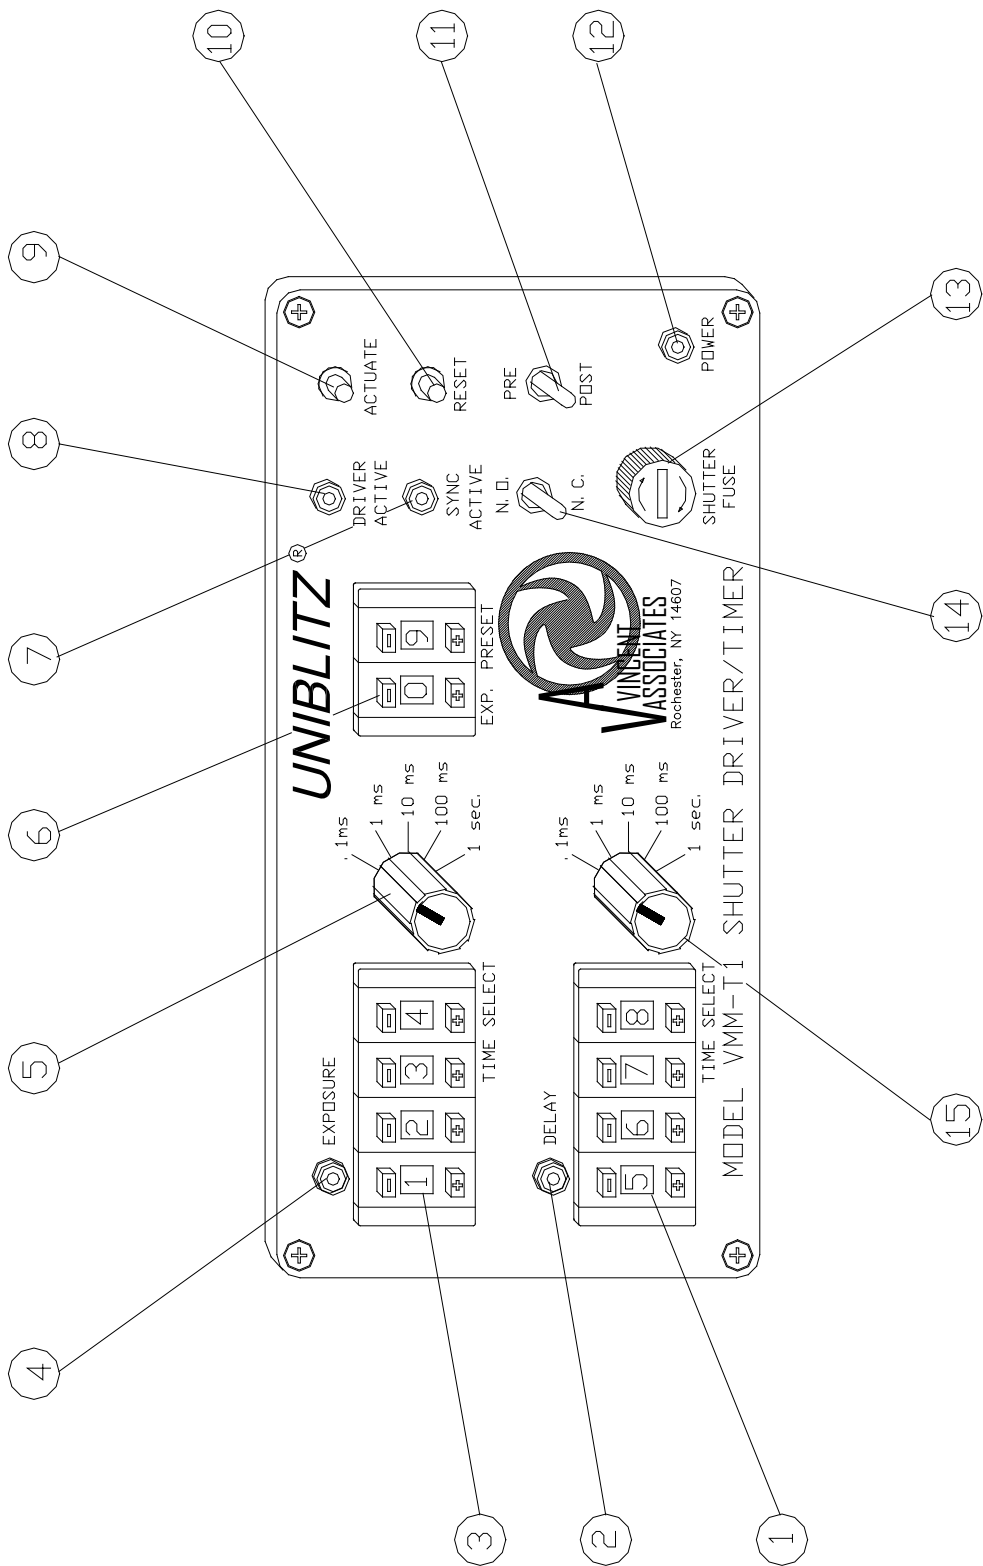

Figure 2 – VMM-T1 Front Panel Operator Controls
1. Please refer to Figure 2 for VMM-T1 front panel layout.
Please refer to Figure 2.